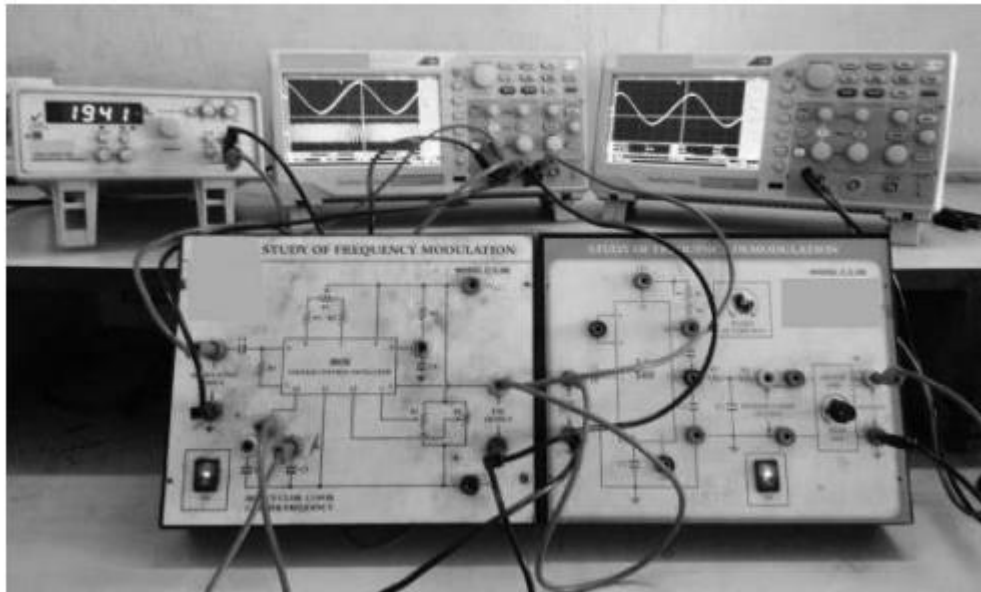

Fig 10.5:FM demodulation experimental setup using IC 565
1. Make the connections as shown in fig 10.5